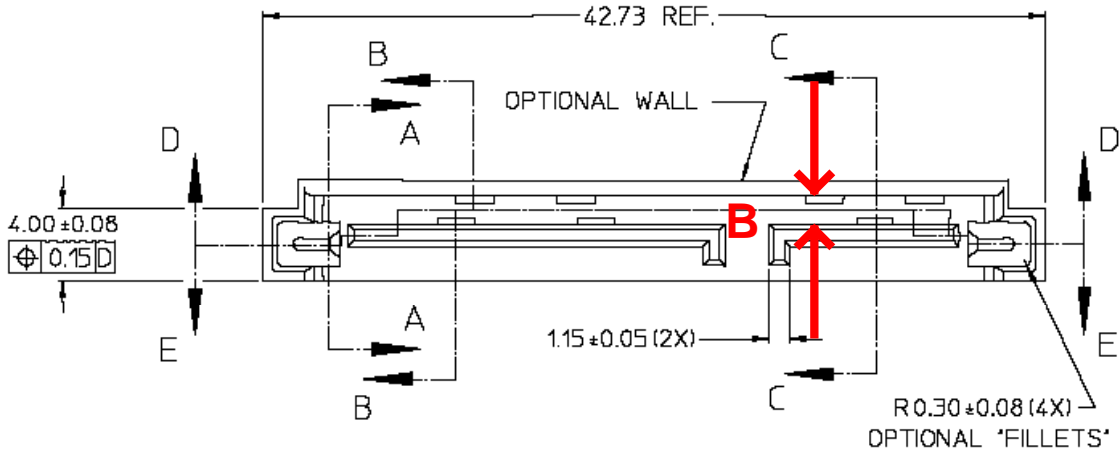

Figure 22
- Using the inside measurement jaws of the calipers measure the distance between the device plug tongue and the Optional Wall or nearest obstruction, as indicated in Figure 22. Perform a measurement sweep along the length of the connector, not just in one place. This will account for any variations in the connector. Record the worst-case measured value as *B*.